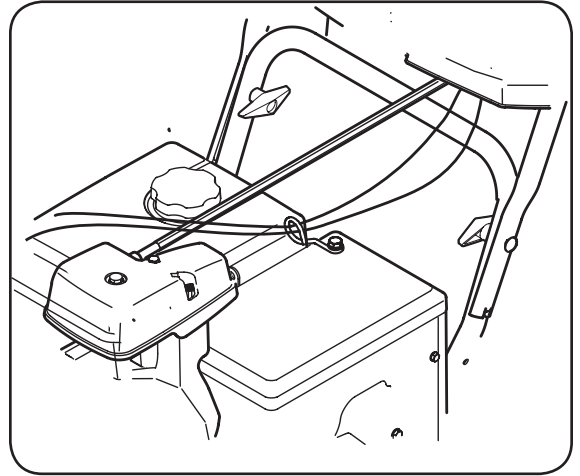

Figure 3-10
9. It is important that all cables be routed through the cable guide and remain positioned on the left side of the hex rod. See Figure 3-10.